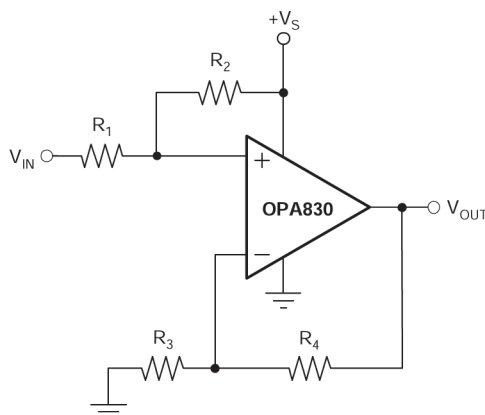
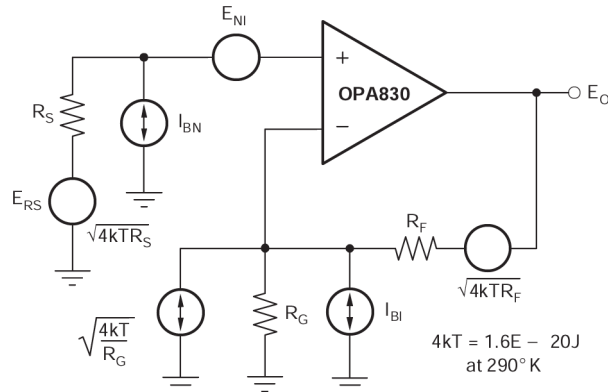

Figure 8-4. DC Level-Shifting
図 8-6. Noise Analysis Model
Figure 8-4 shows a dc-coupled non inverting amplifier that level-shifts the input up to accommodate the desired output voltage range. Given the desired signal gain (G), and the amount V_{OUT} needs to be shifted up (ΔV_{OUT}) when V_{IN} is at the center of the range, the following equations give the resistor values that produce the desired performance. Assume that R_4 is between 200Ω and $1.5k\Omega$.
High slew rate, unity-gain stable, voltage-feedback op amps usually achieve a slew rate at the expense of a higher input noise voltage. The 9.2nV/√Hz input voltage noise for the OPA830, however, is much lower than comparable amplifiers. The input-referred voltage noise and the two input-referred current noise terms (2.8pA/√Hz) combine to give low output noise under a wide variety of operating conditions. 図 8-6 shows the op amp noise analysis model with all the noise terms included. In this model, all noise terms are taken to be noise voltage or current density terms in either nV/√Hz or pA/√Hz.
The total output spot noise voltage can be computed as the square root of the sum of all squared output noise voltage contributors. 図 8-4 shows the general form for the output noise voltage using the terms shown in 図 8-6: